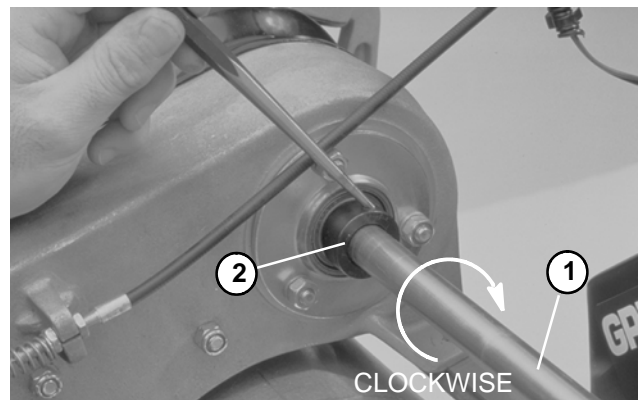

Figure 38
3. Loosen the set screw on the locking collar. Unlock collar by striking it with a punch in the clockwise direction (Fig. 38).
4. Slide collar onto the differential axle. Lock collar by striking it with a punch in the counterclockwise direction. Tighten set screw on the locking collar (Fig. 38).
5. Loosen the set screw on the locking collar. Unlock collar by striking it with a punch in the clockwise direction (Fig. 38).